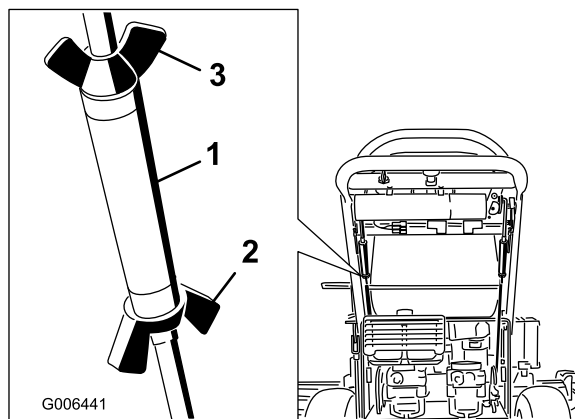

Figure 32
3. Loosen the wing nuts on the right control rod and rotate the turnbuckle in or out to ensure the right side control lever is centered in the neutral lock position. Secure the turnbuckle in position with the wing nuts (Figure 32).
4. Loosen the wing nuts on the left control rod and rotate the turnbuckle in or out to change the tracking. Secure the turnbuckle in position with the wing nuts (Figure 32).